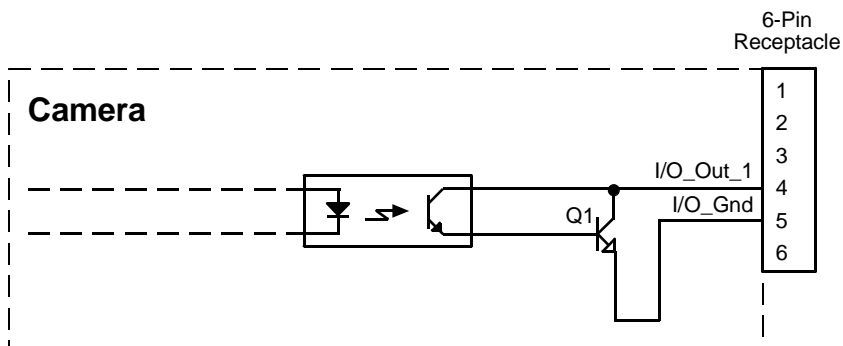

Fig. 42: Output Line Schematic (Simplified)
- A logical zero on Out\_1\_Ctrl results in a non-conducting Q1 transistor in the output circuit (see Figure 42).